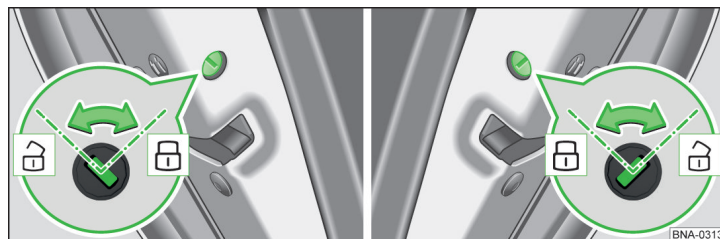

Fig. 24 Rear door: Switching the child safety system on/off
- To **turn on** the child safety lock, turn the vehicle key to position » fig. 24.